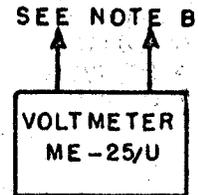

Figure 7-11. Test Set-up for Receiver Stage Gain Measurements
Receiver stage gain measurements are listed in table 7-5. The measurements should be taken as called for in paragraph 3 or 4 of this section. If a measured stage gain does not agree to within approximately 30% of the value given in table 7-5, then replace the stage. If this fails to correct the trouble, then take voltage and resistance measurements of the stage and associated components to locate the trouble. To measure stage gain, refer to the appropriate portion of table 7-5 and to figure 7-11, which shows the test set-up, and proceed as follows:
- Refer to figure 7-11 and connect a signal generator or audio oscillator as called for in table 7-1 to the point designated as input location on that table (location of points for test equipment connections or the receiver is shown in figures 7-2 and 7-3).